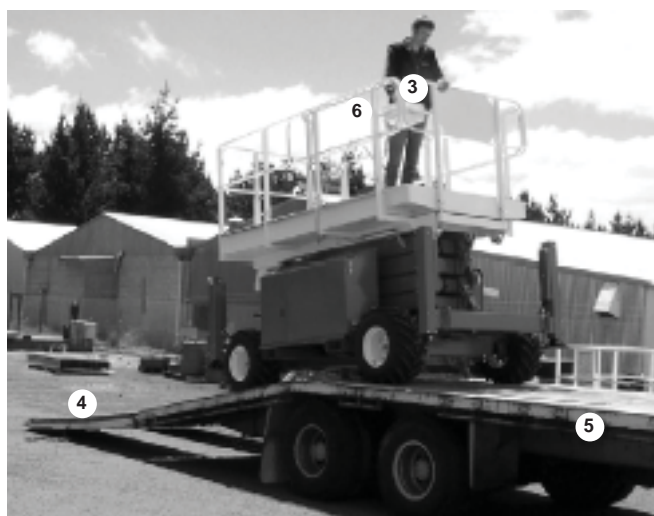

Figure 10.4
6. Use the joystick controller (3) to slowly drive the S3970RT / S3370RT / S2770RT straight onto the ramp (4) and trailer (5) (see figure 10.4).
7. When the S3970RT / S3370RT / S2770RT is in place on the trailer, push the emergency stop switch (6) in (off) at the platform control box.